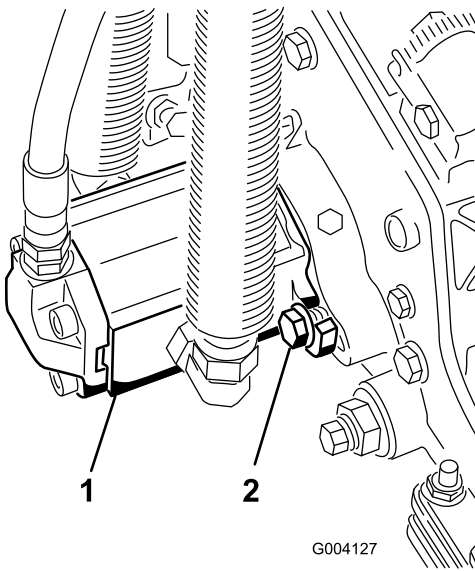

Figure 13
15. Install the motor by rotating it clockwise so that the motor flanges clear the bolts (Figure 13). Rotate the motor counterclockwise until the flanges encircle the bolts then tighten the bolts.